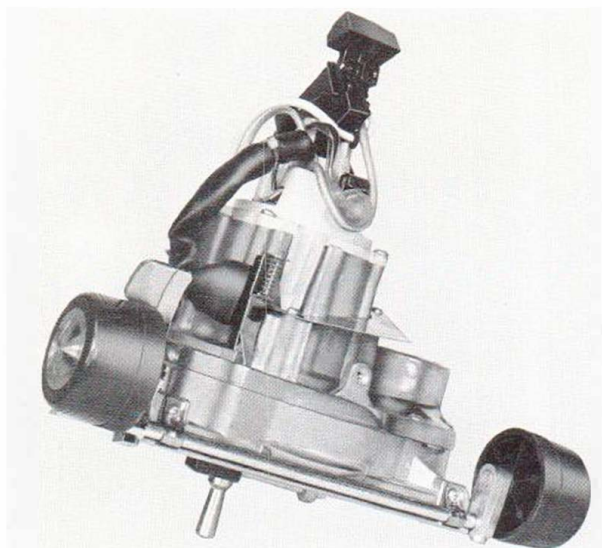

Figure 1-9. Speed selector switch and lead cover
(5) Reconnect the four leads to the switch terminals according to the color coding. Cover the switch terminal board with the black switch cover (87), as shown in figure 1-9.
(6) Replace the housing shell as described in paragraph 1-3c.